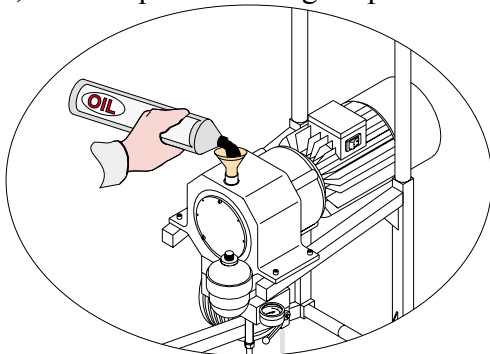

Fig.35
- c) Screw up the discharge cap and fill up with oil (fig. 35).